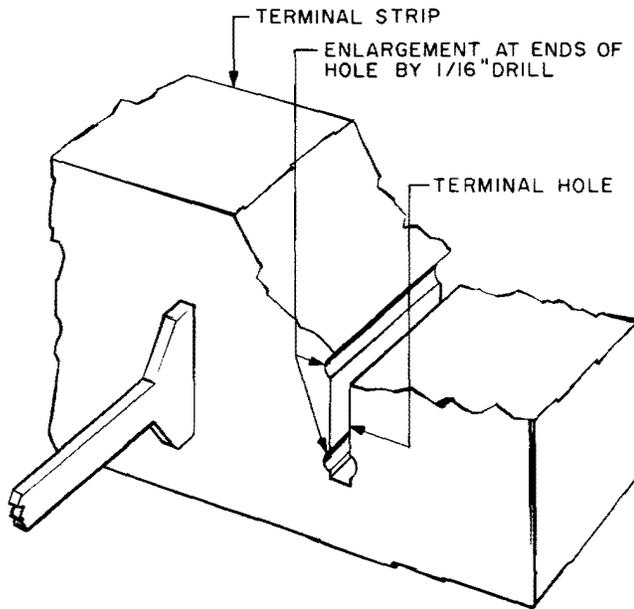
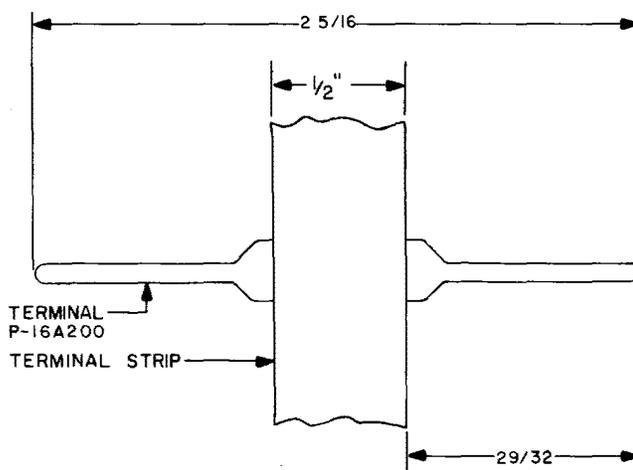
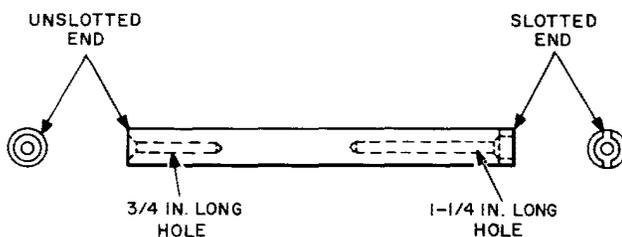

Fig. 6—Enlargement of Ends of Terminal Holes
Fig. 7—P-16A200 Flat Punched Terminals Arranged For Wrapped Connection
Fig. 8—KS-16748 Inserter
**3.13** Using the 1/16-inch twist drill with the hand or electric drill, enlarge the ends of the rectangular hole from which the broken terminal was removed as shown in Fig. 6. To do this, run the twist drill through the hole once at each end of the hole. Take care to hold the drill perpendicular to the face of the block and drill as close to each end of the hole as possible. Insert one end of the replacement terminal, see Fig. 7, into the slotted end of the KS-16748 inserter (Fig. 8) so that the shoulder on the terminal is seated in the slot in the inserter. Insert the free end of the terminal into the hole from which the broken terminal was removed. Push the terminal into the hole until the shoulder of the terminal begins to enter the hole. Then tap the end of the inserter with the 4-ounce riveting hammer until the slotted end of the inserter touches the face of the terminal strip. Remove the inserter from the terminal.